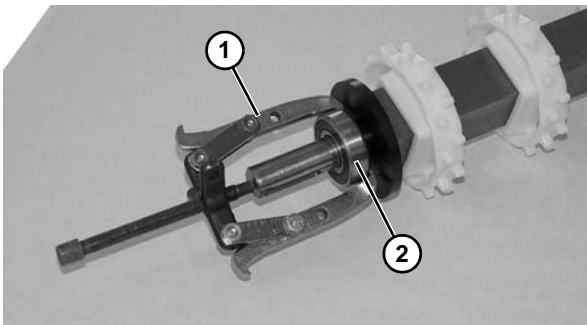

Figure 57
- Using puller (**Figure 57, item 1**), as shown, remove bearing (**Figure 57, item 2**) from shaft assembly. Repeat on opposite side, if needed.